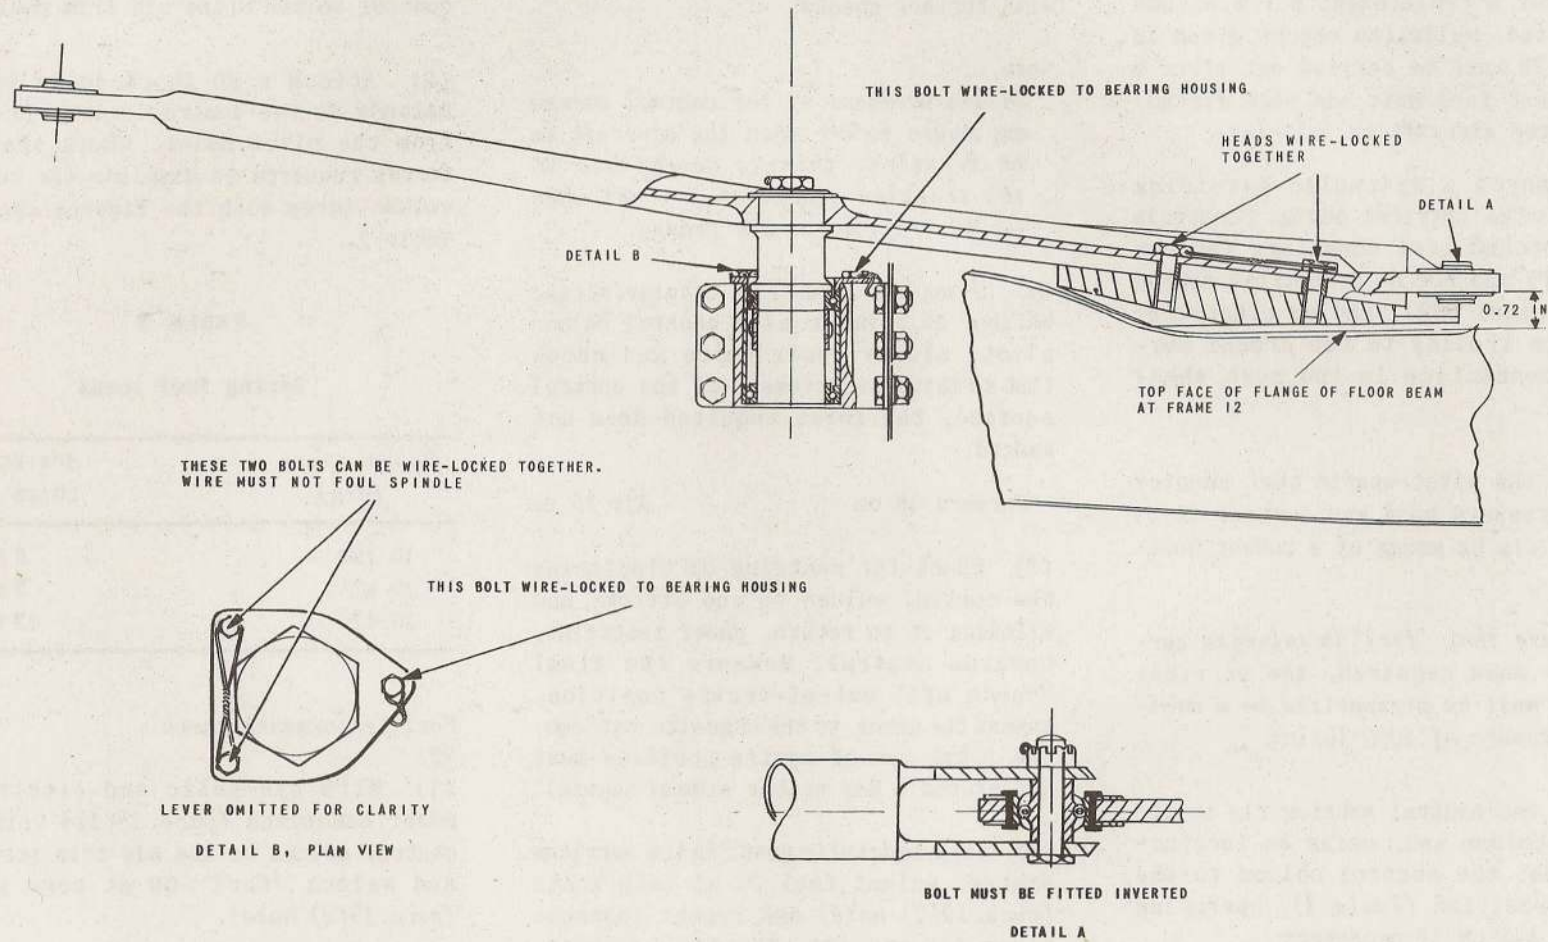

FIG.8. LEVER ASSEMBLY - FRAMES 11-12
13. Prepare the aircraft by removing the appropriate access panels (Sect.2, Chap.4, Table 3), and, if necessary, the detachable floor panel No.21 (Sect.2, Chap.4, fig.8).
In view of the possibility of fouls occurring in the control run if bolts are fitted incorrectly, particular attention is drawn to the fact that in some cases bolts are fitted inverted (fig.8 and 9).